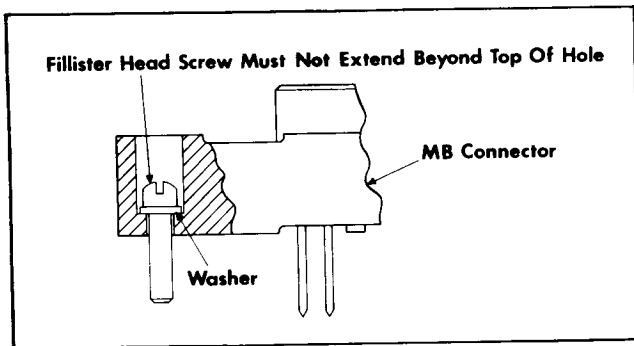

Figure 3. MB connector, screw mounted
- *c. A number four fillister head machine screw of appropriate length, with suitable washer under the head, may be inserted from the front of the connector through the 0.185 inch diameter countersink into the 0.122 inch diameter hole at each end of the connector and fastened with a suitable washer and nut. (Ref. figure 3) Torque to 5.5 pound-inch maximum after soldering operation has been completed.